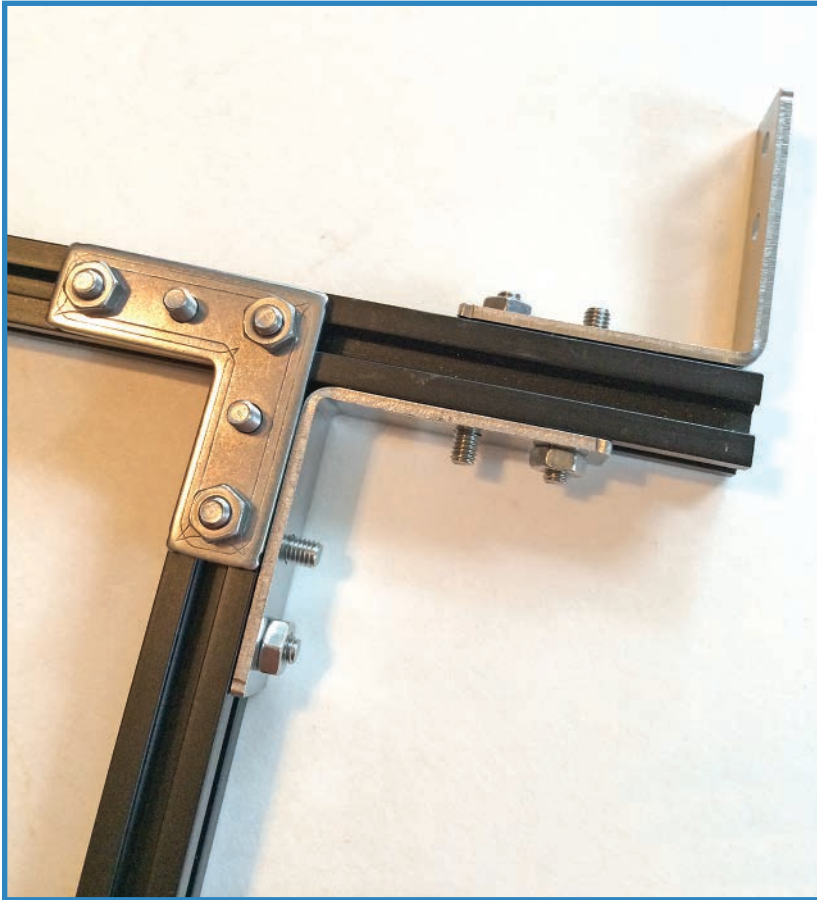

FIGURE 4.12 Add another bracket.
- d. Attach an L-bracket to the top of the 10cm beam, positioning it like you see in Figure 4.12.